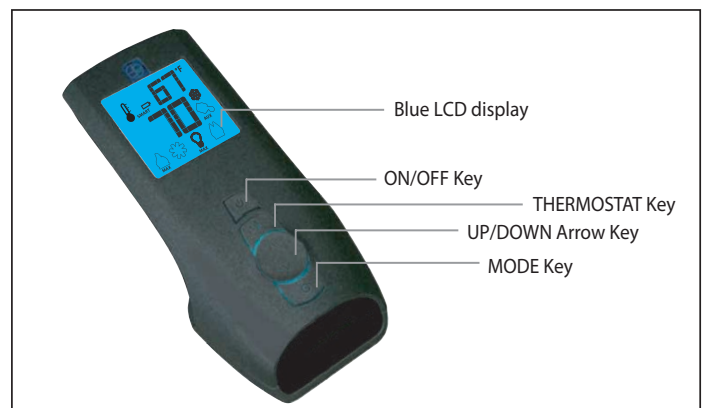

Figure 4: Proflame 2 Transmitter
The Proflame 2 Transmitter is a black remote control with a blue backlit LCD display. It uses a streamline design with a simple button layout and informative LCD readout (Figure 5). The Transmitter is powered by three (3) AAA type batteries. A Mode Key is provided to Index between the features and a Thermostat Key is used to turn on/off or index through Thermostat functions (Figure 4 & 5)